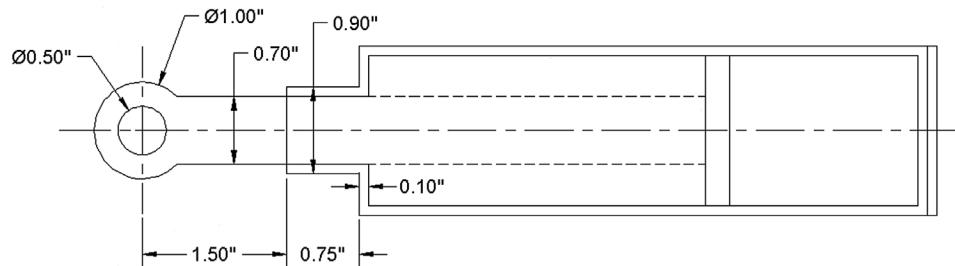

FIGURE 8.29 Creating side view.
**Step 9.** Continue adding the basic geometry to the side view, as well as hidden and centerlines, as shown in Fig. 8.29. Set LTSCALE to .4.